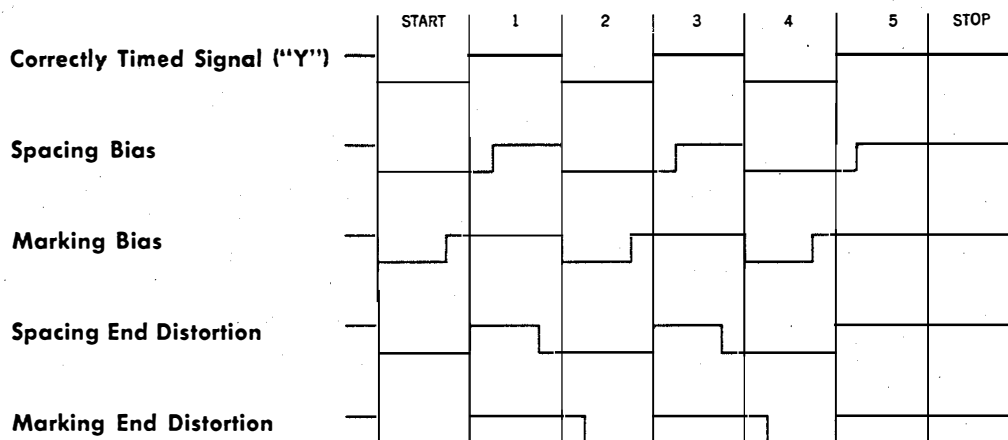

Fig. 2 - Bias and End Distortion
3.01 The following definitions are given for terms used in this section. (See Fig. 2 for illustrations.)